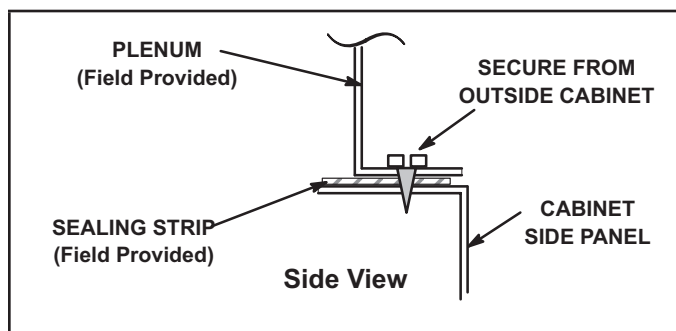
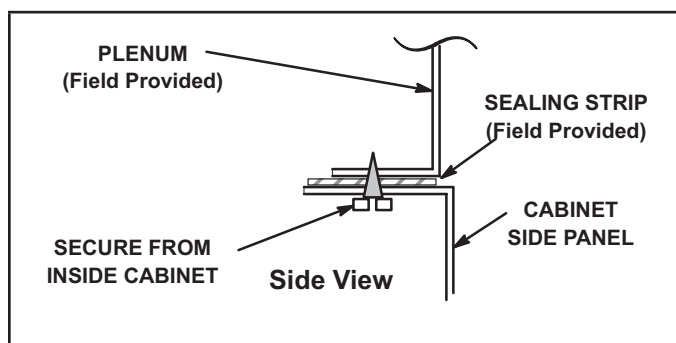

FIGURE 17
FIGURE 18
- 1 - Bottom edge of plenum should be flanged with a hemmed edge (See "FIGURE 17" or "FIGURE 18").